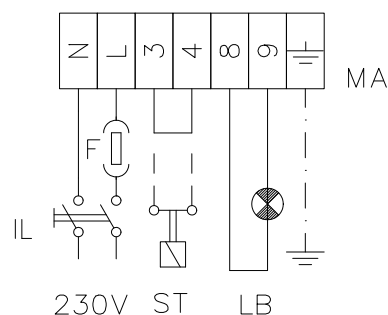

Fig. 6
- Carry out electrical connection as shown in Fig. 6